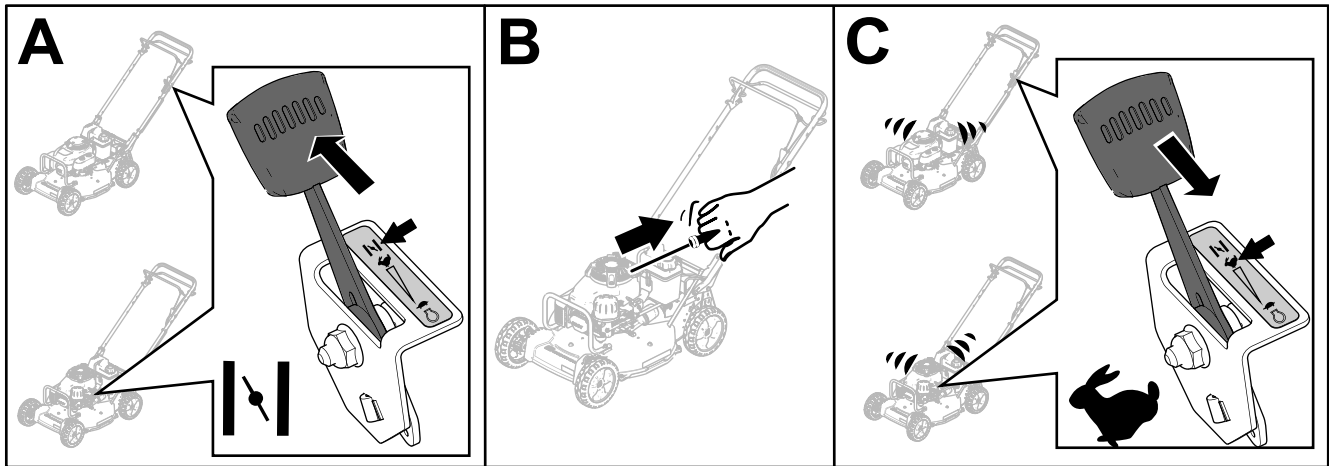

Figure 16
3. Move the throttle-control lever to the CHOKE position (A of Figure 16).
4. Pull the starter handle lightly until you feel resistance, then pull it sharply (B of Figure 16).
- When the engine starts, move the throttle-control lever to the FAST position (C of Figure 16).